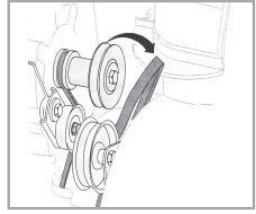

Fig.23
3. Roll the auger belt off the engine pulley. See Figure 23.